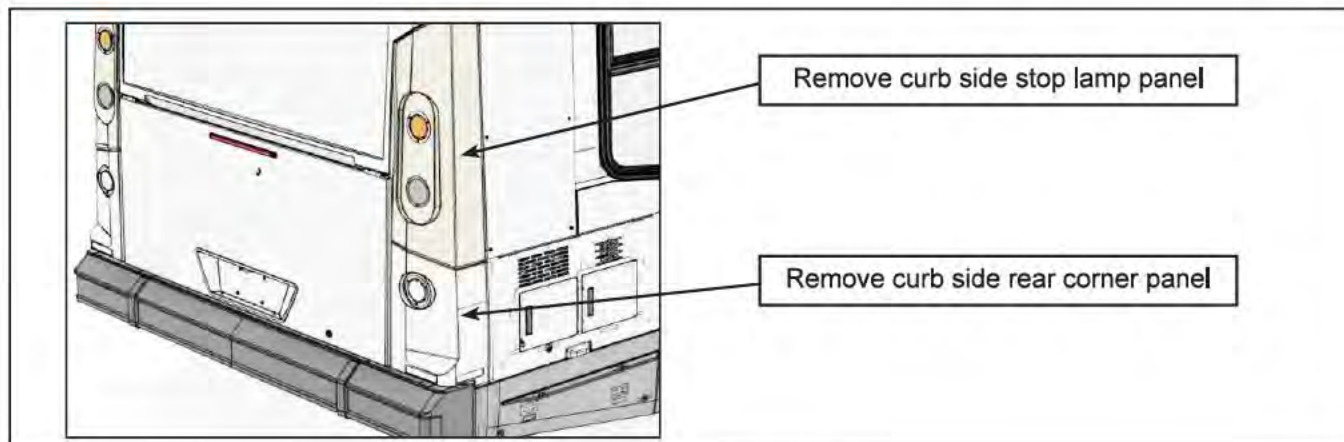

Figure 3 - Panel to remove
- 2.3. Remove the curb side stop lamp panel and the curb side rear corner panel. Retain the panels and hardware. See Figure 3.